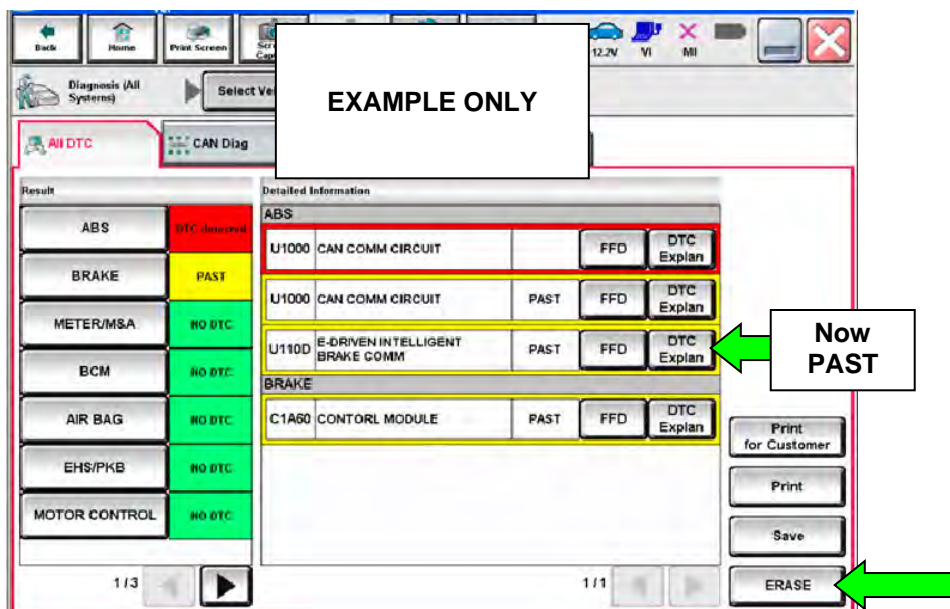

Figure 27
- Figure 27 should now be displayed with additional DTCs as a PAST.